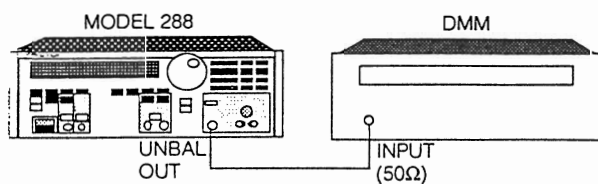

Figure 2-8. Amplitude Accuracy
2. Connect the Model 288 and test equipment as shown in figure 2-8.